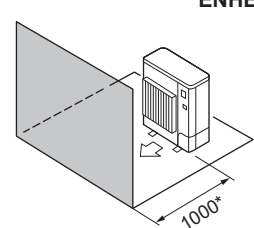

Fig. 2-10
- (4) Kun forhindringer foran (Fig. 2-10)